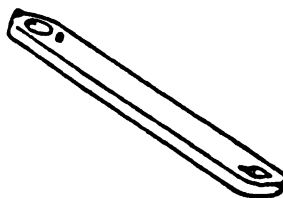

Fig 1-8. Firing pin wrench.
c. Firing pin wrench (fig 1-8); the firing pin wrench is used to remove the firing pin.